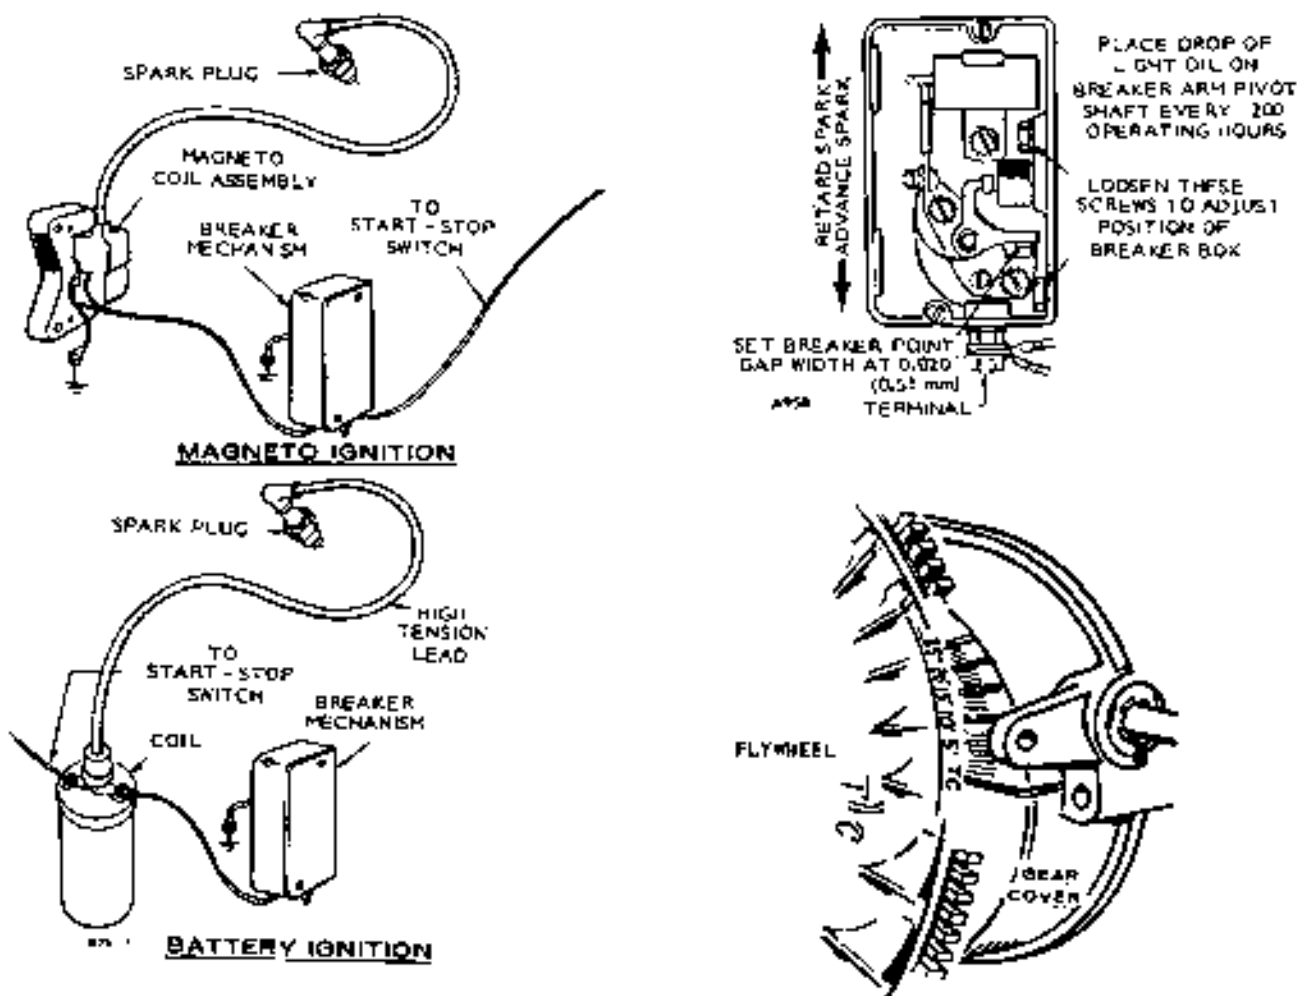

FIGURE 10-30. NB IGNITION SYSTEMS
2. Crank engine slowly by hand in direction of crankshaft rotation until top center mark on flywheel and 22° mark on gear cover are exactly in line on the compression stroke, Figure 10-30.